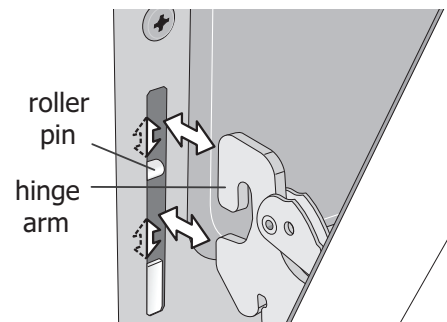

Figure 13: Remove door position
4. Pull the bottom of the door toward you while rotating the top of the door toward the appliance to completely disengage the hinge levers (Figure 13).
1. Firmly grasp both sides of oven door along the door sides. Do not use the oven door handle (Figure 13).
2. Hold the oven door at the same angle as the removal position. Carefully insert the hinge levers into the oven frame until you feel the hinge levers are seated into the hinge notches. The hinge arms must be fully seated into the hinge notches before the oven door can be fully opened. (Figure 13).